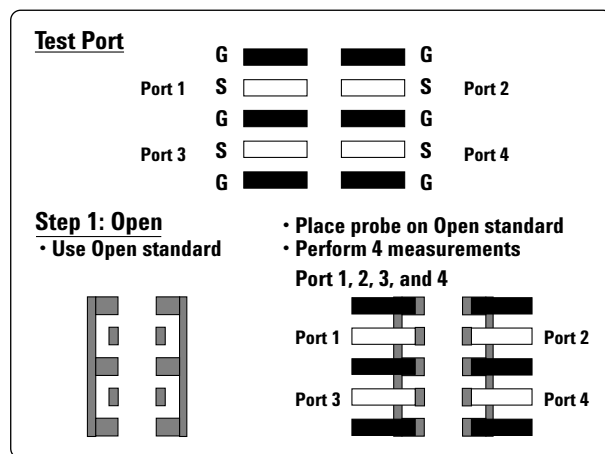

Figure 11. Open calibration
2. Open calibration is performed for each test port by using the open on the ISS. Refer to Figure 11.